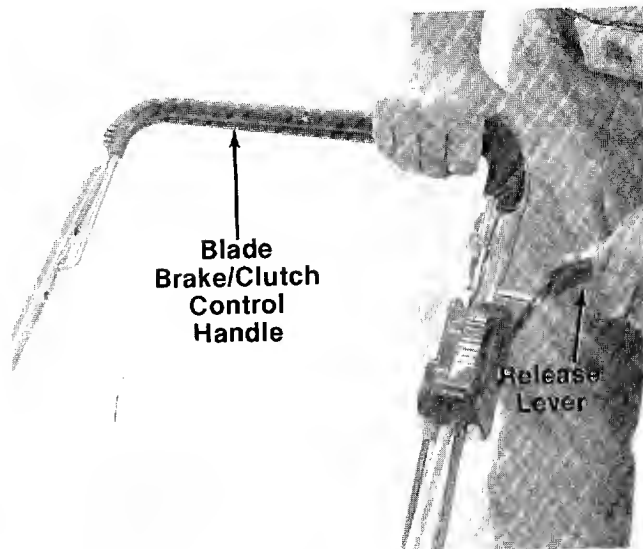

FIGURE 14.
To engage the blade, pull the side release lever away from the unit. See figure 14. Pull the blade brake/clutch control handle against the upper handle. Release side lever.
2. To engage the blade, pull the side release lever away from the unit. Pull the blade brake/clutch control handle down against the upper handle. Release the side lever. See figure 14.